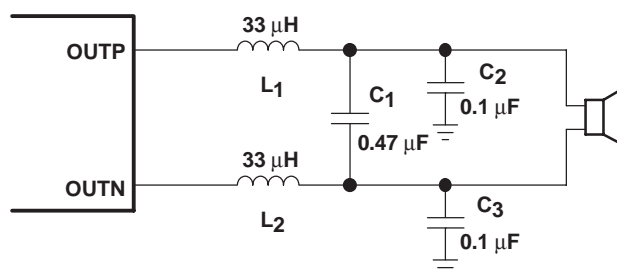
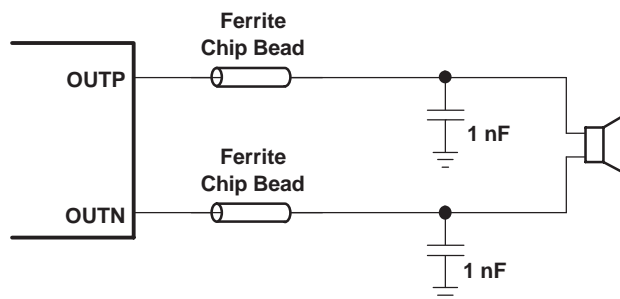

Figure 33. Typical LC Output Filter, Cutoff Frequency of 27 kHz, Speaker Impedance = 8 Ω
Figure 34. Typical Ferrite Chip Bead Filter (Chip bead example: Fair-Rite 2512067007Y3)
- **Output filter** — The ferrite EMI filter (Figure 34) should be placed as close to the output terminals as possible for the best EMI performance. The LC filter (Figure 33) should be placed close to the outputs. The capacitors used in both the ferrite and LC filters should be grounded to power ground.